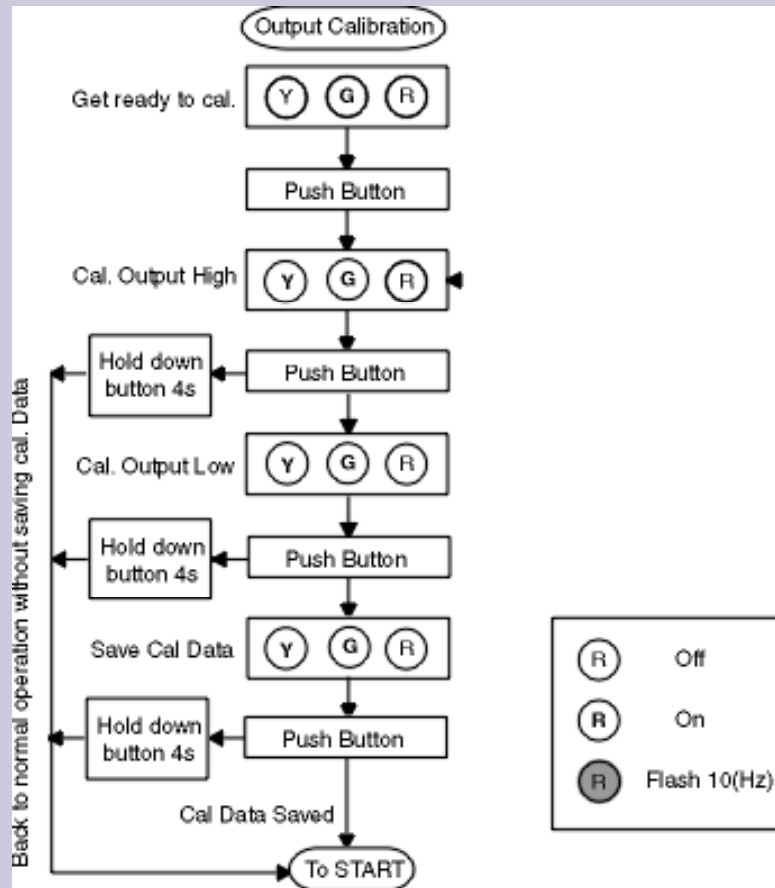

Figure 1B
20. Press and hold the button down for 4 seconds. The Red and Yellow LED's should be lit. Manually calibrating the output frequency requires first selecting the desired frequency output range with DIP Switch SW1, positions 9 & 10, as described in Figure 1B. These switch settings are not required if calibrating via the software utility. After the output frequency is calibrated, the switches can be reset to their previous settings for calibration method. Press the button one more time and the Red and Green LED's should be lit.